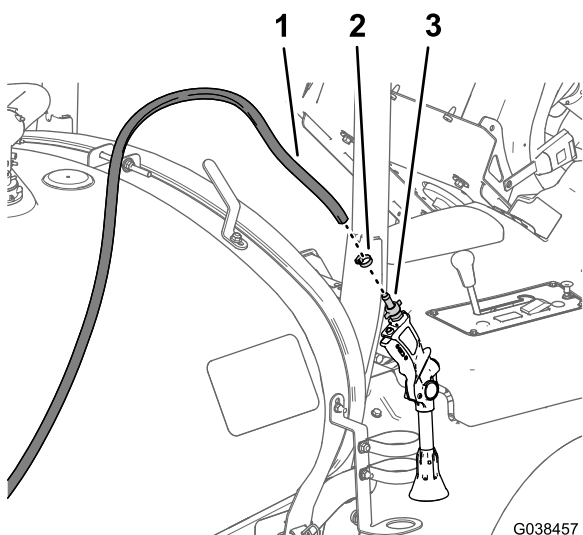

Figure 94
7. Assemble the barb of the spray gun (Figure 94) that you removed in Disconnecting the Optional Hand Spray-Wand Kit \(page 10\) to the supply hose with a hose clamp 6 to 11 mm (1/4 to 7/16 inch).